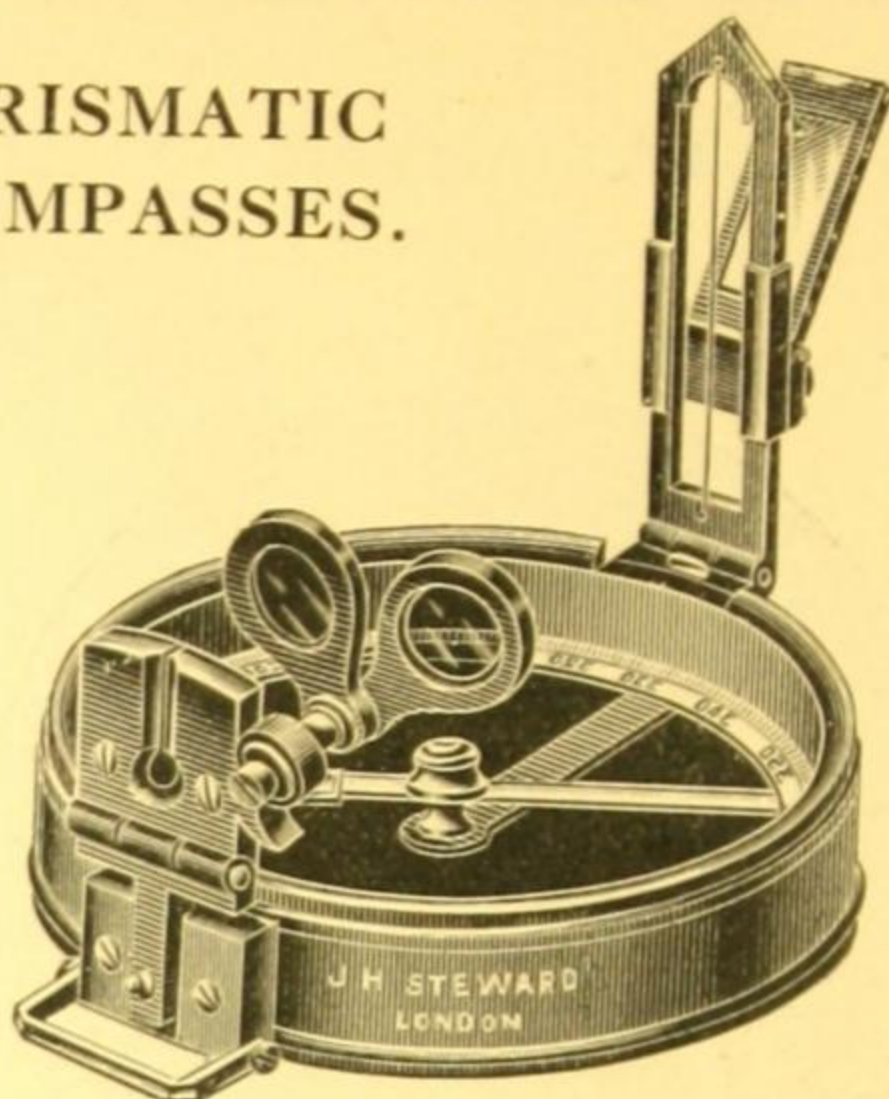

Fig. 77.
- SM 301.—**Reversible Azimuth Mirror** and tinted glasses as Fig. 77.
**Prismatic Compass**, with bronzed brass mounts and cover. Aluminium ring divided to half degrees. Needle with agate centre and sliding weight for adjusting dip. Check and lock stops. Reversible azimuth mirror for taking steep sights above or below the horizontal. Tinted glasses for observing sun's bearing. Adjustable prism reader. Threaded fitting to base for attaching to a tripod. Leather case with shoulder strap. Fig. 77.
SM 311. **Reversible Mirror** to foresight for taking steep sights, and tinted glasses for observing sun's bearing as illustrated, Fig. 77, page 59.